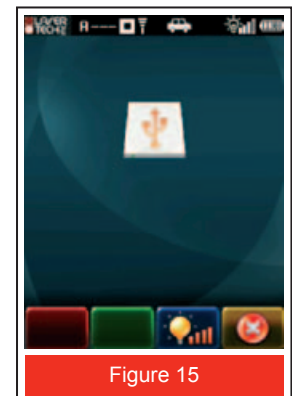

Figure 15
3. Connect the other end of the cable to the PC. The TruCAM will detect the USB connection. Figure 15 shows the screen that will be displayed.